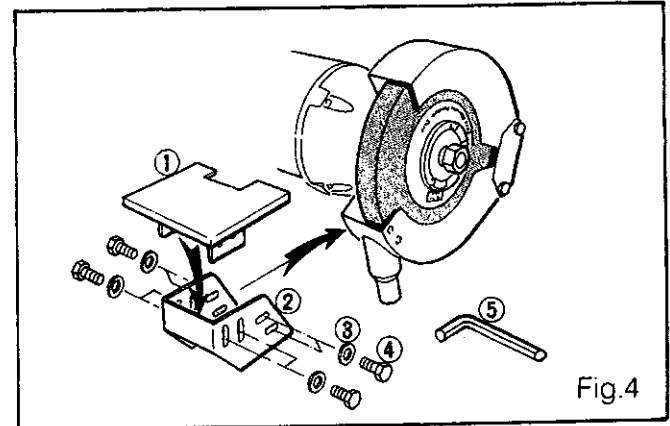

Fig.4
• These parts are shown in figure 4.